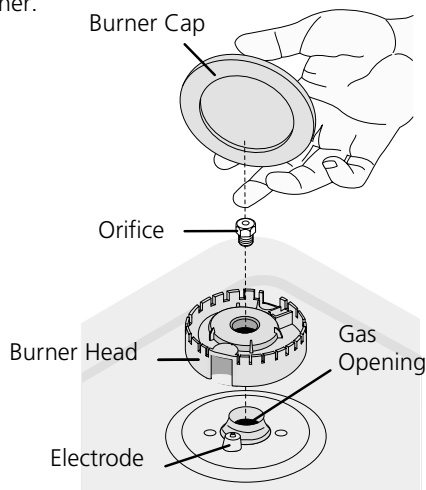

Figure 2
A. Remove the following items (see Figure 2):
B. Install the following items (see Figure 2):